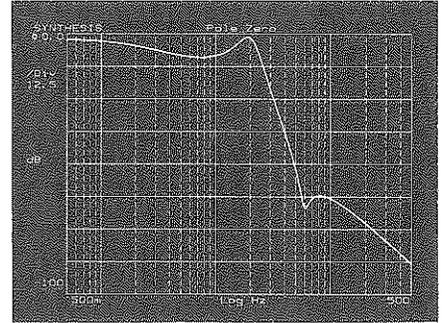

Figure 10-2
7. **Create Response** Select the **CREATE TRACE** softkey to activate the frequency response synthesis; the message "SYNTHESIS IN PROGRESS" is displayed. The results for this example are shown in Figure 10-2.
A quick inspection with the Y-marker shows that the passband flatness is not within the specifications due to the peak at 20 Hz (as shown in Figure 10-2). One possible solution is to move one of the complex pole pairs farther from the $j\omega$ axis: